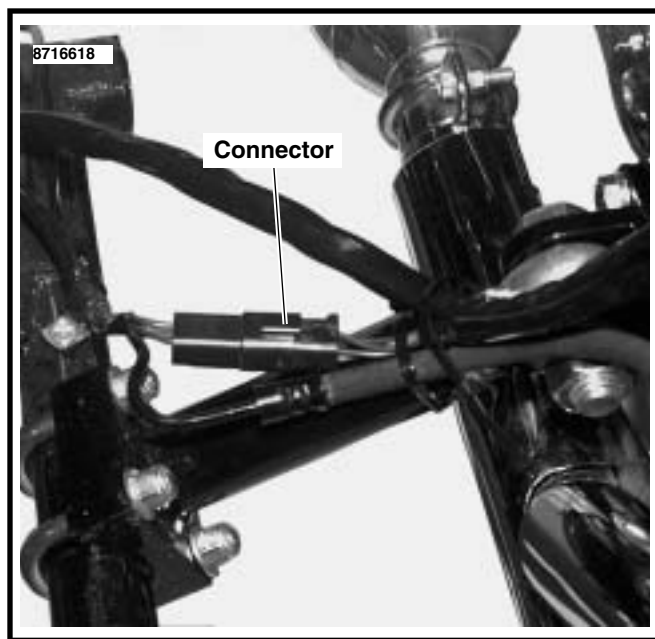

Figure 19. 1994 Lower Harness Connector
4. See Figure 19. Connect the lower harness connector, between the sidecar and motorcycle. Tie wrap to frame as shown in figure 21.